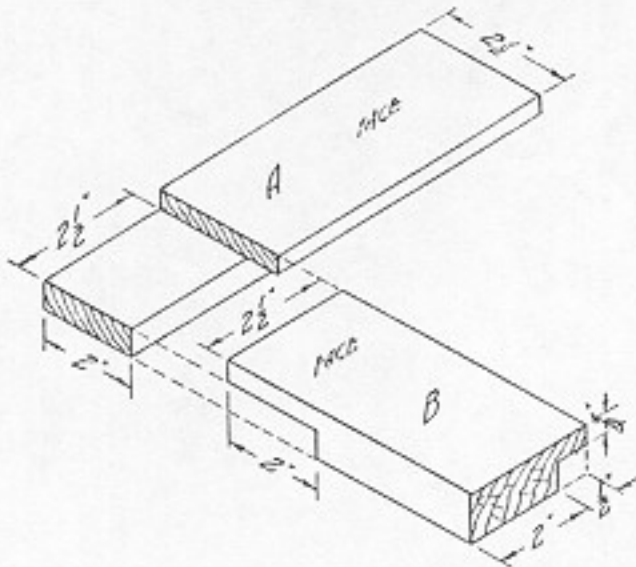

Fig. 197. Layout of end-lap joint with rabbet.
2. The joint is laid out as an ordinary end-lap joint, but the width of the rabbet is subtracted on piece B when the shoulder cuts are laid out (Fig. 197).